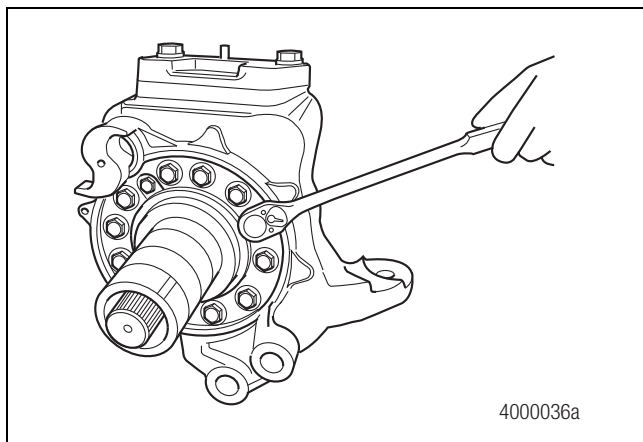

Figure 3.15
1. Remove the capscrews that secure the brake assembly and spindle to the steering knuckle. Figure 3.15.